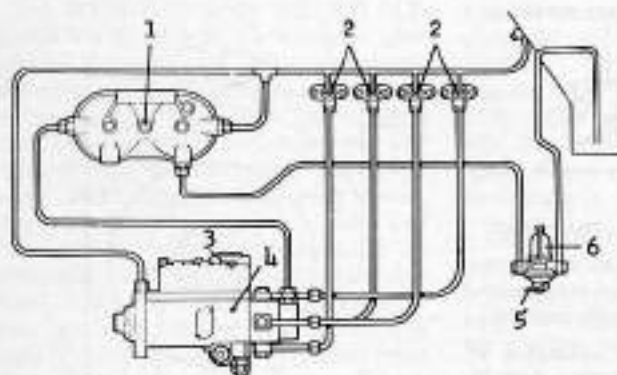
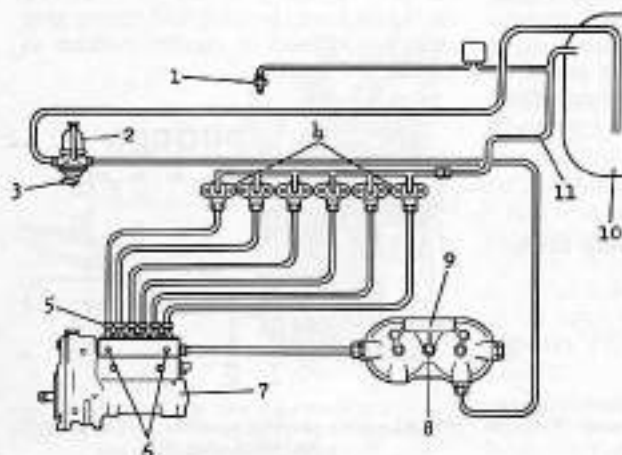

Fig. 79—View showing four cylinder engine fuel system. Three cylinder engine system is similar.
Fig. 80—View showing six cylinder engine fuel system.
**154. BLEEDING SYSTEM.** Make sure fuel tank contains at least 7.6 L (two gallons) of fuel and turn engine over until primer pump lever will operate fuel lift pump for a full stroke. Open filter bleed screw (1—Fig. 79) and actuate primer lever (5) until air-free fuel flows freely from bleeder screw opening. Tighten filter bleed screw (1) and open pump bleed screws (3 and 4) or (6—Fig. 80) on 1690 models. Actuate primer lever until air-free fuel flows